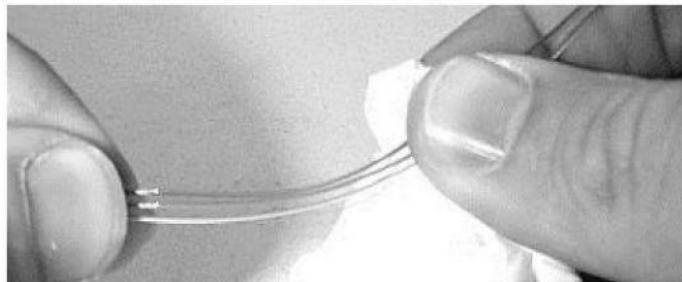

Figure 15 - Carefully clean the fibres
4.15 Carefully clean the exposed fibres using a lint-free wipe soaked with isopropyl alcohol (Figure 15).